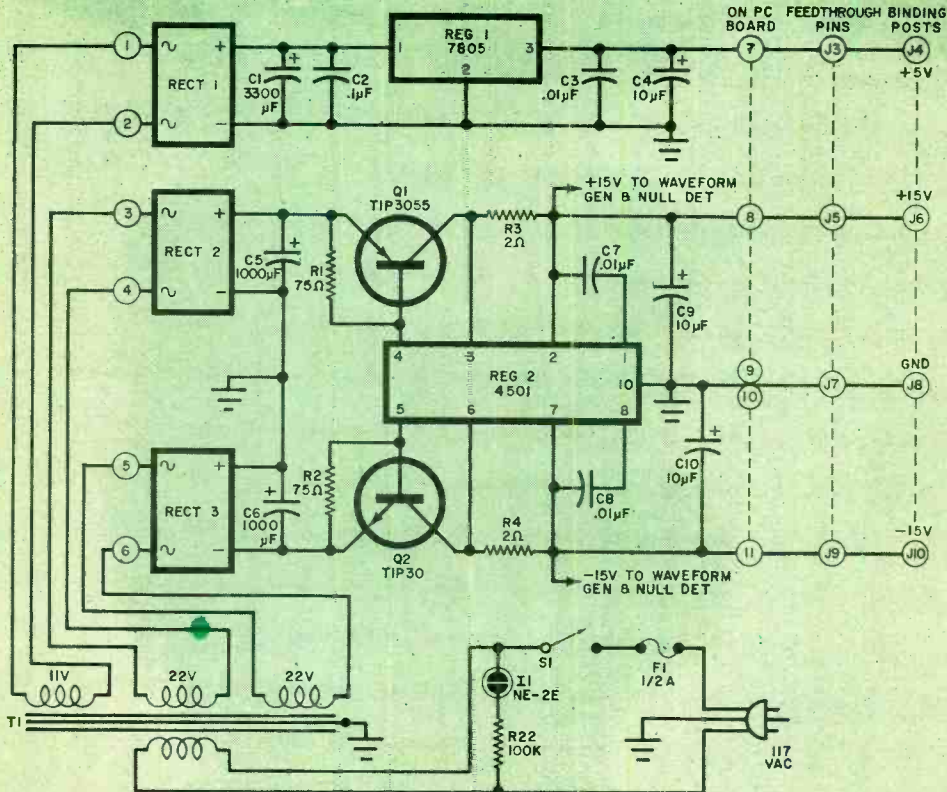

Fig. 1. The power supplies use IC regulator chips for accurate and stable output.
**About the Circuits.** The +5-volt supply (Fig. 1) is a conventional bridge rectifier (*RECT1*) and filter (*C1,C2*) with a regulator (*REG1*) whose output is filtered by *C3* and *C4*. Line and load regulation are typically less than 0.5% with less than 20 mV ripple. The regulator automatically shuts down with any short or overheating.